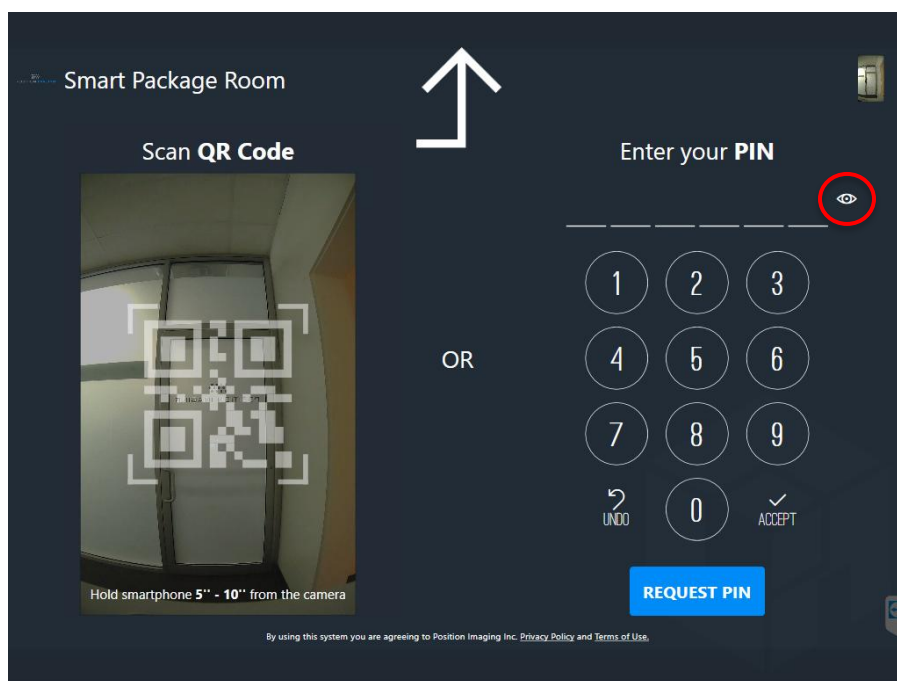

Figure 2: Enter Staff member or Courier 6-digit PIN
1. At the kiosk, the system recognizes a presence and automatically takes you to the sign-in screen, or **Touch to Begin**. Enter the **Staff** or **Couriers PIN**. Tap the **Eye icon** to show/hide your PIN. Refer to Figure 2. See the *Portal User’s Guide* for information on how to assign a PIN.